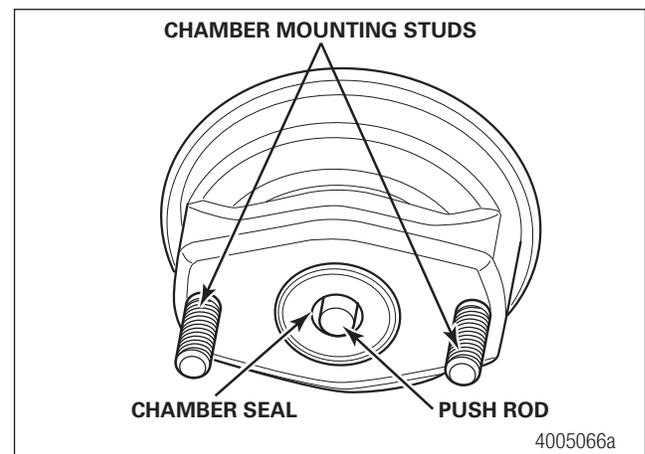

Fig. 10.2 Air Chamber Inspection Points
STEP 4 - With the air chamber removed, visually inspect the chamber mounting studs. Figure 10.2.